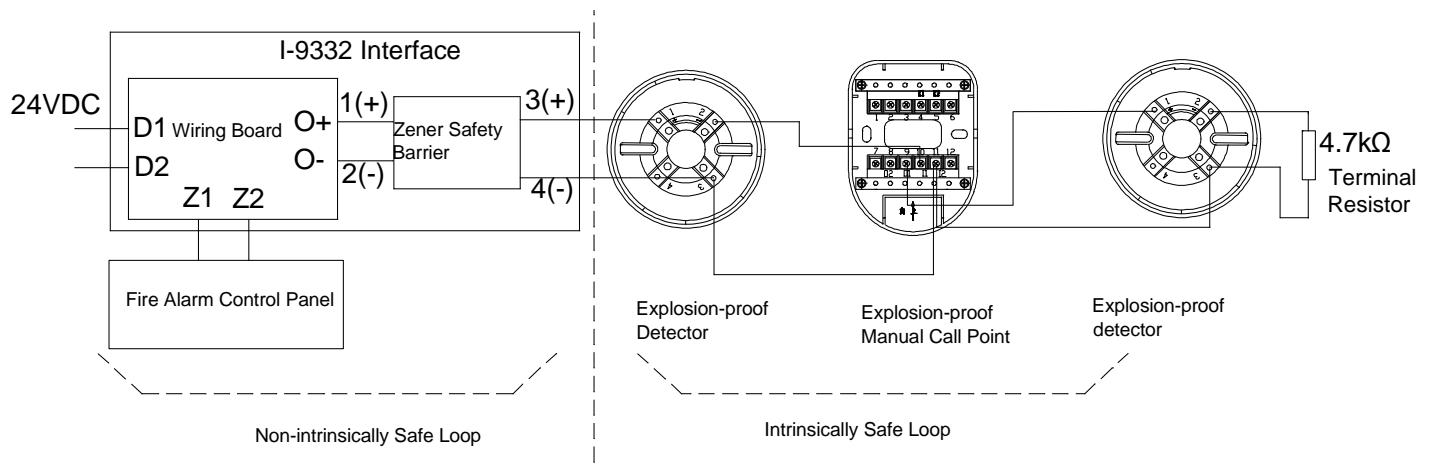

Fig. 4
- ✧ The interface has to connect with a 4.7kΩ terminal resistor at the end of loop in the intrinsically safe system. The number of connected different devices cannot be over 10. The system composition is shown in Fig. 4.